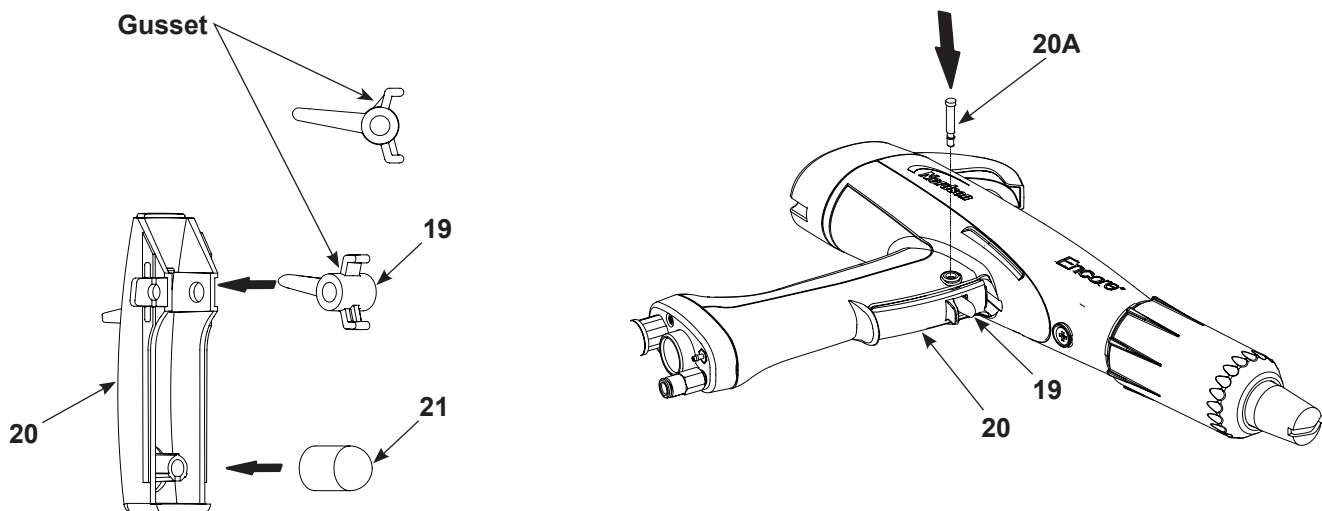

Figure 22 Reinstalling the Trigger and Axle
7. See Figure 22. Install the purge trigger (19) into the spray trigger (20) with the gusset oriented upward as shown. **Do not install the purge trigger upside down.**
8. Verify that the actuator (21) is installed over the post.